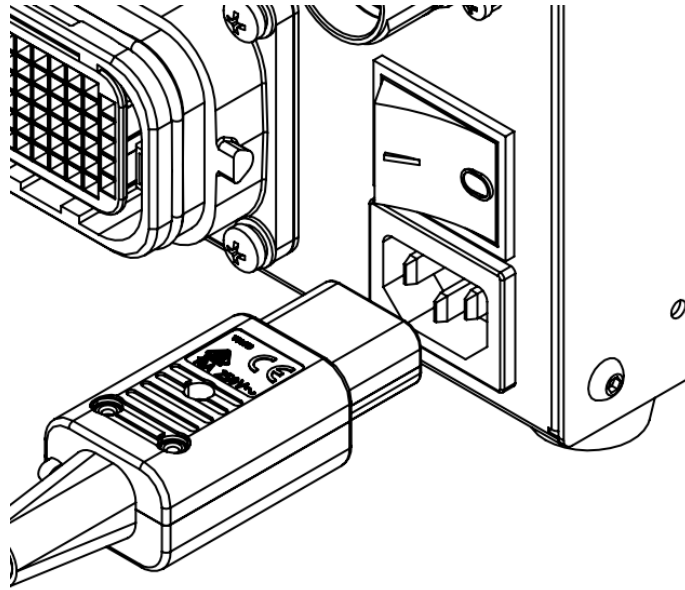

Figure 3-7 Power cable connection interface
- Step1. Connect the control cabinet. Insert the fret-shaped plug of the power cable into the power cable connection interface of the control cabinet (see Figure 3-7).